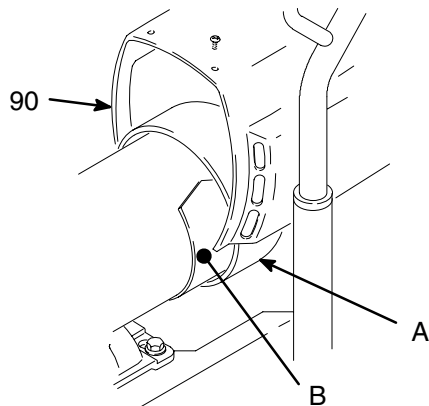

Fig. 4
5. Fig. 4. Remove motor shield (90) and inspection covers (B).
4. Fig. 4. Remove motor shield (90). Remove inspection covers (B) and gaskets on each side of motor.
16. Fig. 4. Install gaskets and inspection covers (B) on each side of motor. Install motor shield (90).